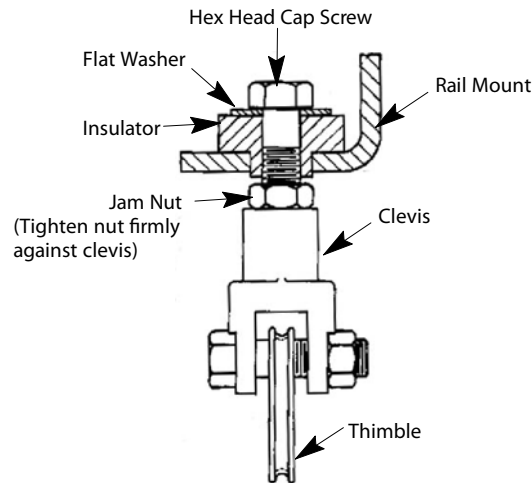

**Figure 5 - Rail Mounts**
6. Install top rail mounts at the top of each counterweight rail. See Figure 5.